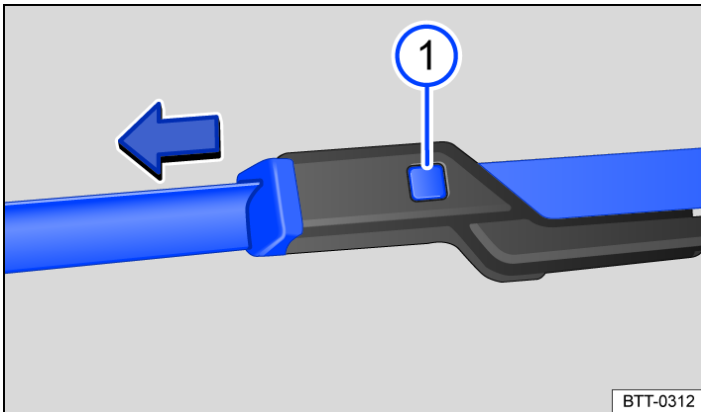

Fig. 1 Changing the windscreen wiper blades.
3. Press and hold the release button and simultaneously pull off the wiper blade in the direction of the arrow → Fig. 1 ①.